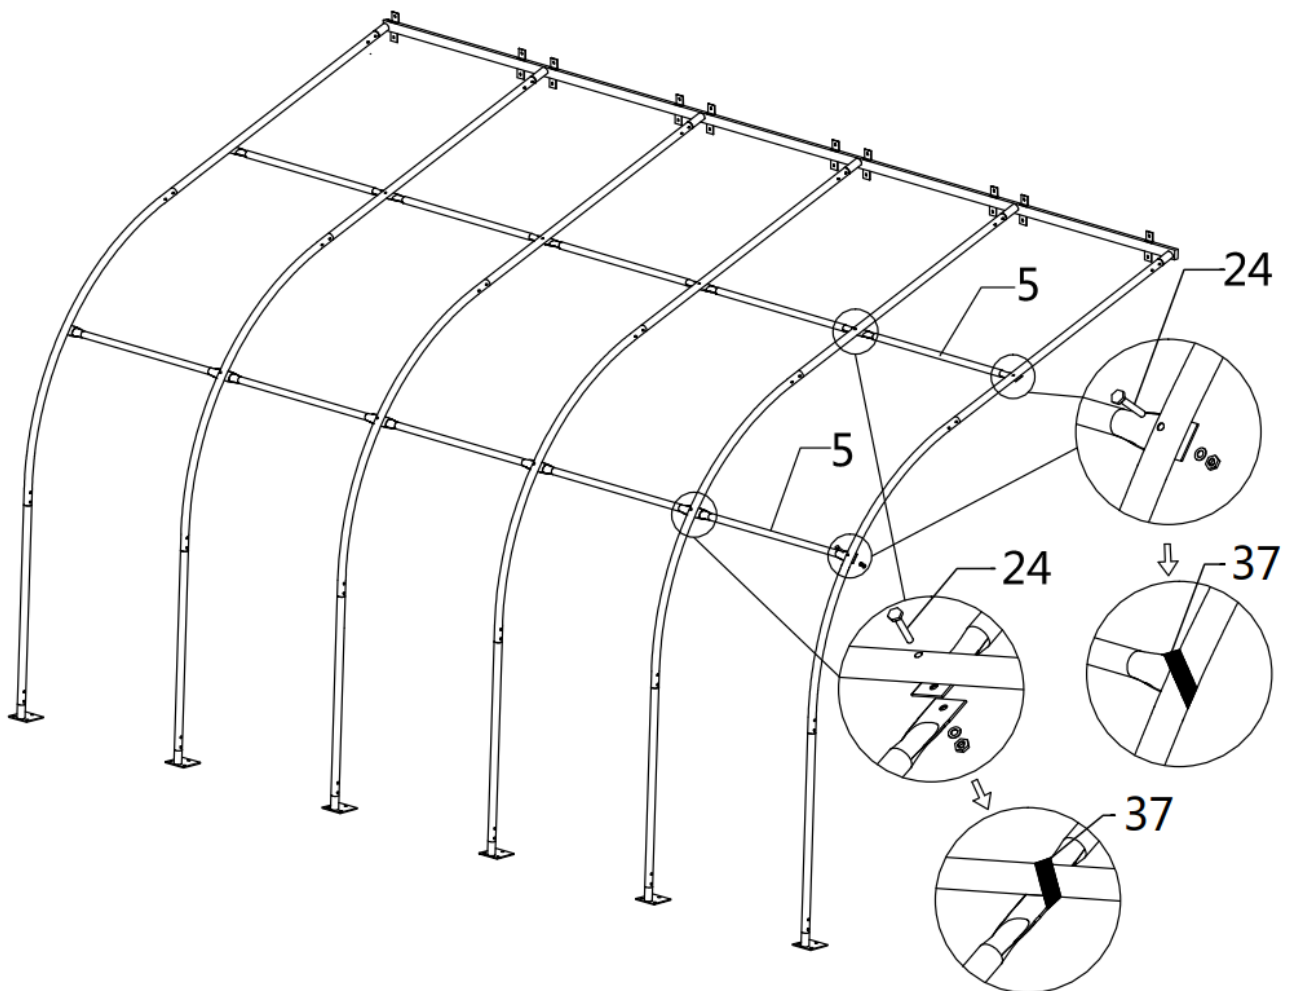

Figure 5
- Install roof purlins to secure all trusses and seal bolts with adhesive tape (refer to figure 5)
- (2) Adhesive tape (#37)